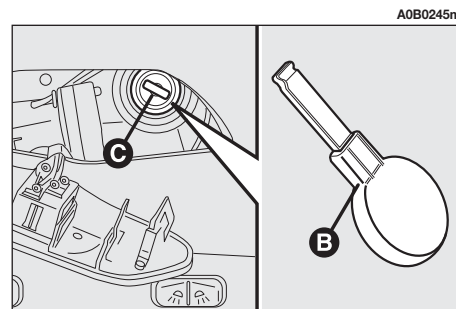

fig. 160
- use the outfit screwdriver or the special wrench (**B-fig. 160**) supplied for the versions / market where provided, and located in the object holder drawer, push on and turn the sunroof control bushing (**C-fig. 160**) clockwise to open it and anti-clockwise to close it.